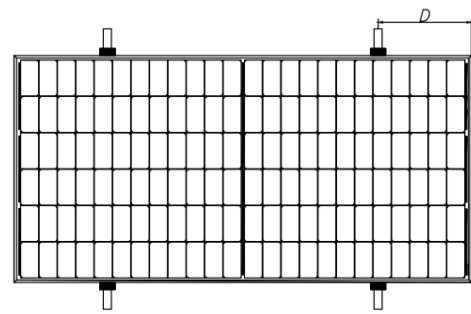
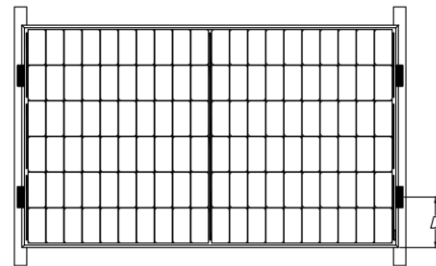

Fig. 8 Rails vertical to the long-side frame
Fig. 9 Rails overlapping the short-side frame
Photovoltaic modules can be installed across the support frame (Fig. 8) or parallel to the frame of the photovoltaic module (Fig. 9). When using clamps to install, each module must be secured with a minimum of 4 clamps.
- ⑧ For the installation method shown in Fig. 9, the module needs to be fixed with professional clamps (as shown in Fig. 13), and the overlap between the C side of the module and the rail should be ≥ 15 mm. Chint's limited warranty will be void if improper clamps or improper installation is used.